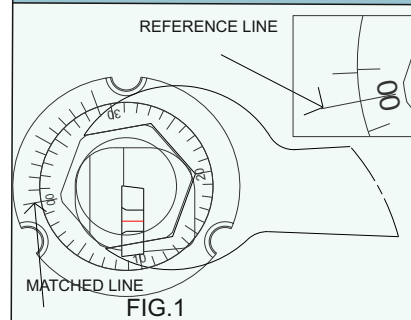

FIG.1
- Find the line on the vernier scale which do exactly match with the line on the main scale as shown in FIG.1.
- Find the line on the vernier scale which do exactly match with the line on the main scale as shown in FIG.1..